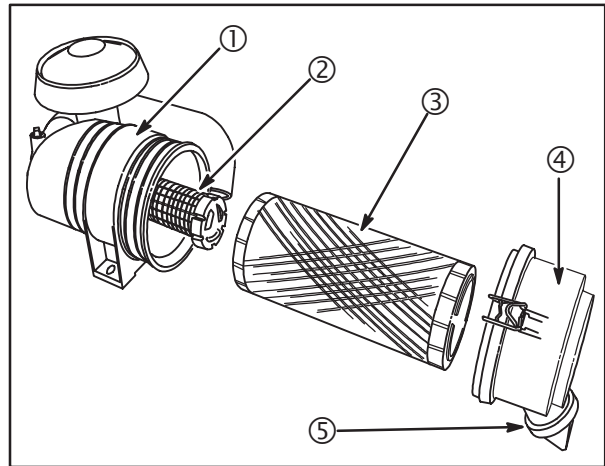

Fig. 4
1. Remove debris from the air cleaner by squeezing the ends of the debris valve (5), **Fig. 4.**